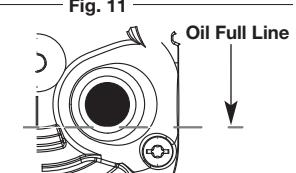

Fig. 12
- Look into the oil fill hole, use a flashlight if needed. The oil should be just touching the inner most thread (Fig. 12).
- If the oil level is not touching the inner most thread on the oil fill hole, add a small amount of oil to the oil fill hole and recheck (Fig. 12). Repeat this procedure until the oil level reaches the inner most thread on the oil fill hole.
NOTE: Make sure the O-ring is in place on the oil fill plug when checking and changing the oil (Fig. 12).